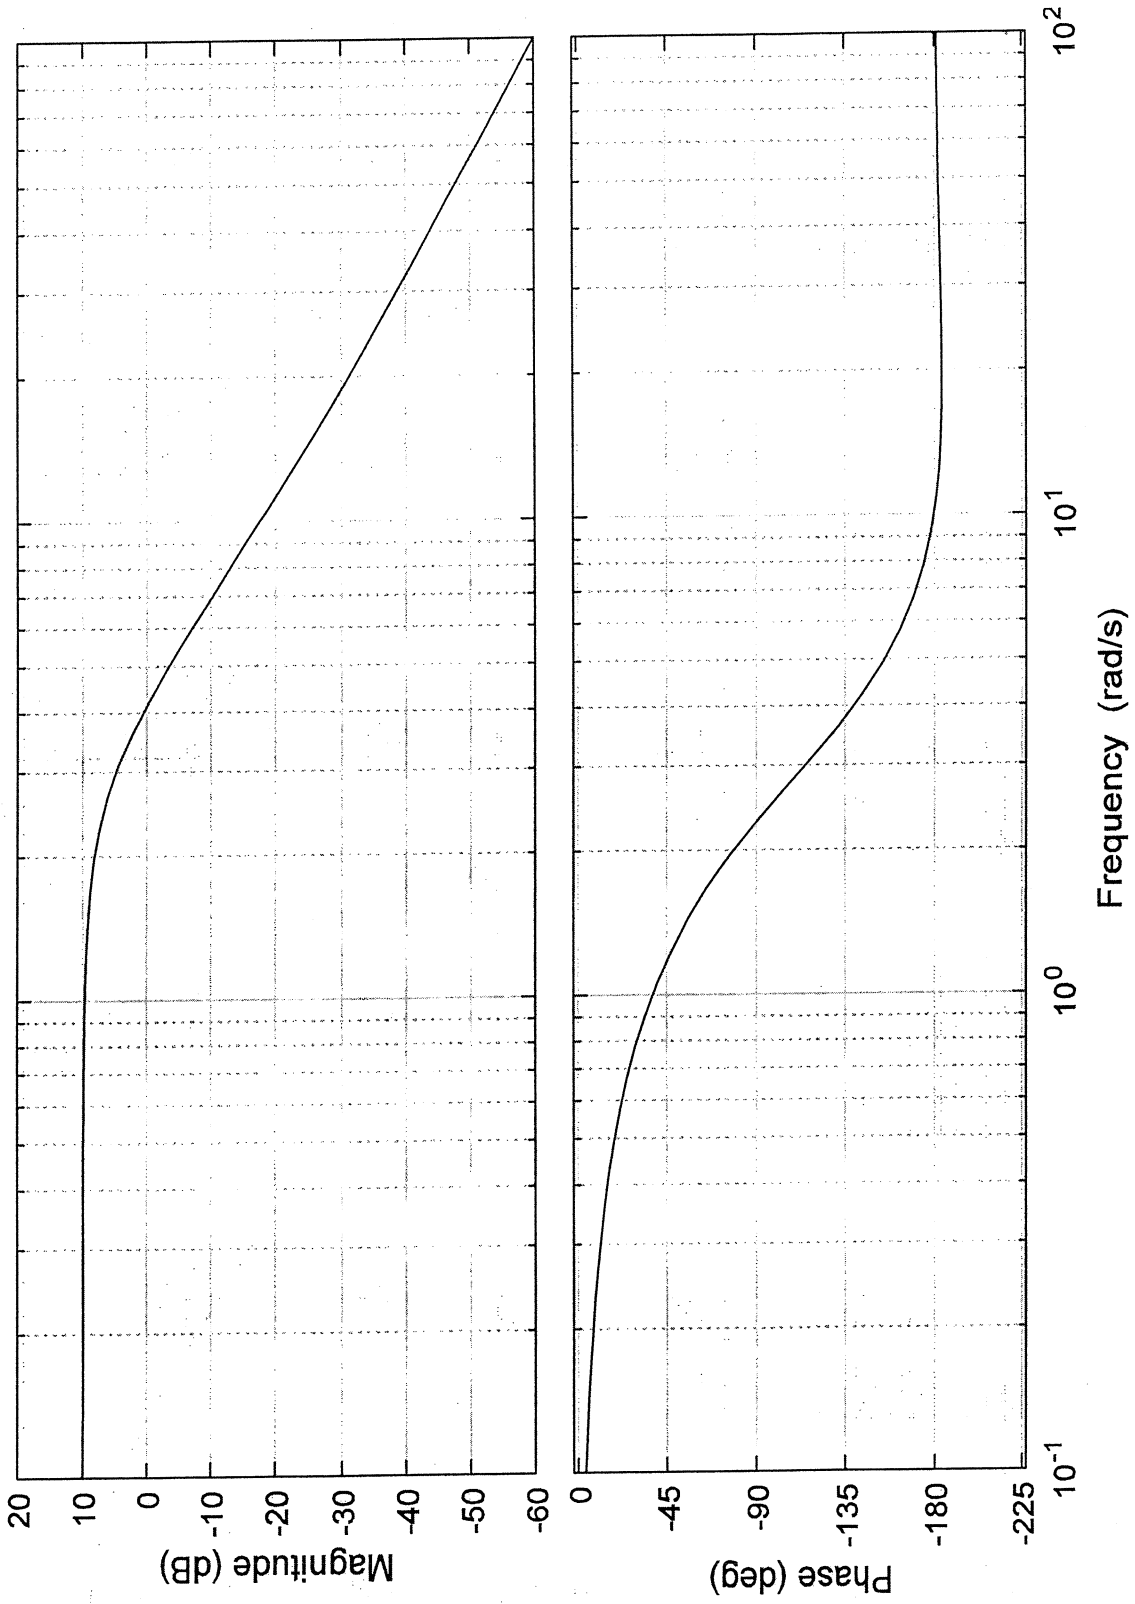

Figure Q1.3 – Frequency Response of $G(s)$ in Question 1
- (5 marks)** The frequency response (Bode plot) for the process $G(s)$ is shown in Figure Q1.3. Use it to verify the above calculations of the critical value (or values) of the gain, K_{crit} , and the corresponding frequency (or frequencies) of marginally stable oscillations, ω_{osc} .
Consider the same unit feedback control system shown in Figure Q1.1 in Question 1. Use the information contained in the Bode Plots in Figure Q1.3 to sketch a polar plot of the normalized open loop transfer function, $\frac{G_{open}(j\omega)}{K}$ - read off the crossovers with the Imaginary and Real axis, and indicate these crossovers on the resulting polar plot. As well, clearly indicate the direction of increasing frequency on the plot.